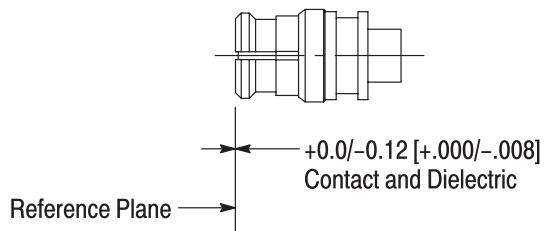

Figure 6
11. Adherence to assembly procedure should yield tolerances shown in Figure 6.